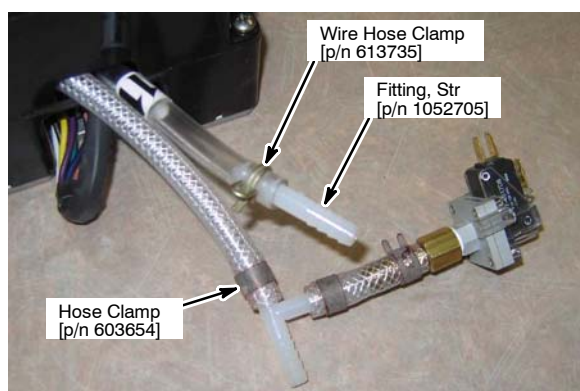

Fig. 21
3. Attach the above hose assembly to the ec-H2O module as shown. Attach fitting [p/n 1052705] to outlet hose as shown. (Figure 21)